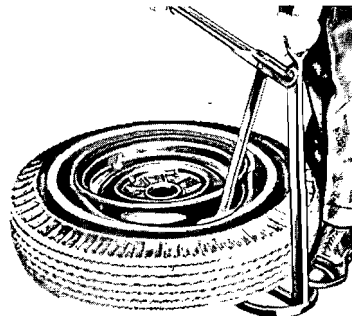

FIG. 3 Loosening Tire Bead
2. With a bead loosening tool, break loose the tire side walls from the wheel (Fig. 3).